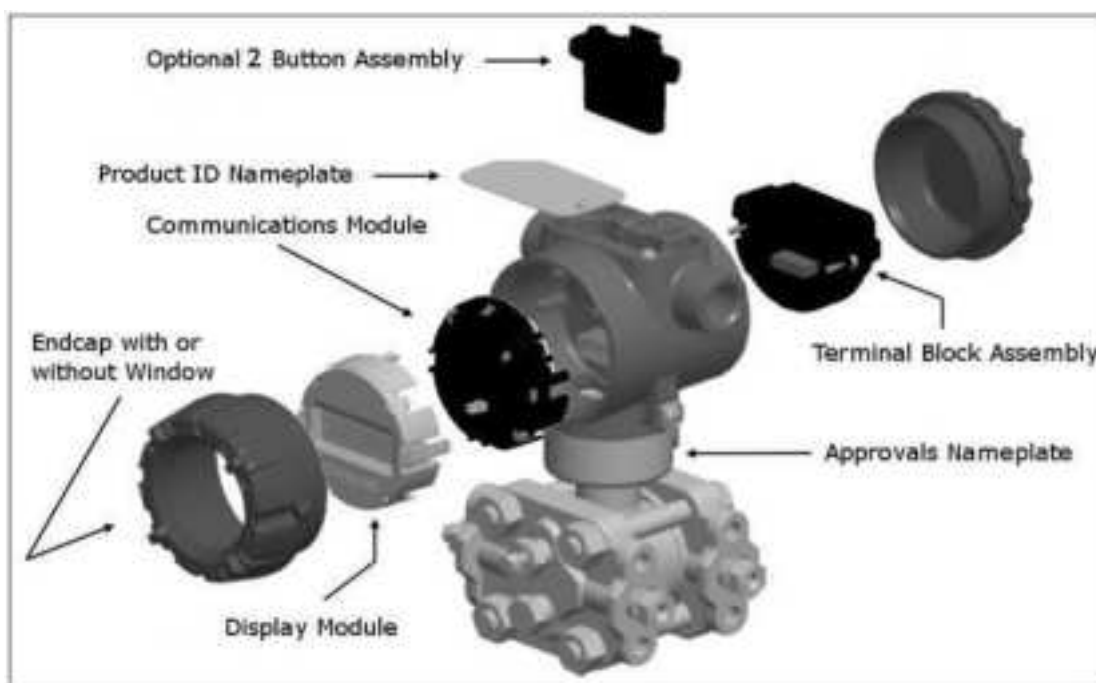
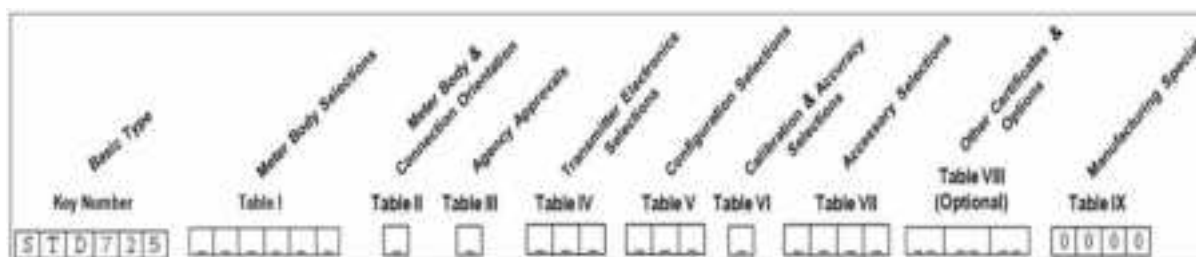
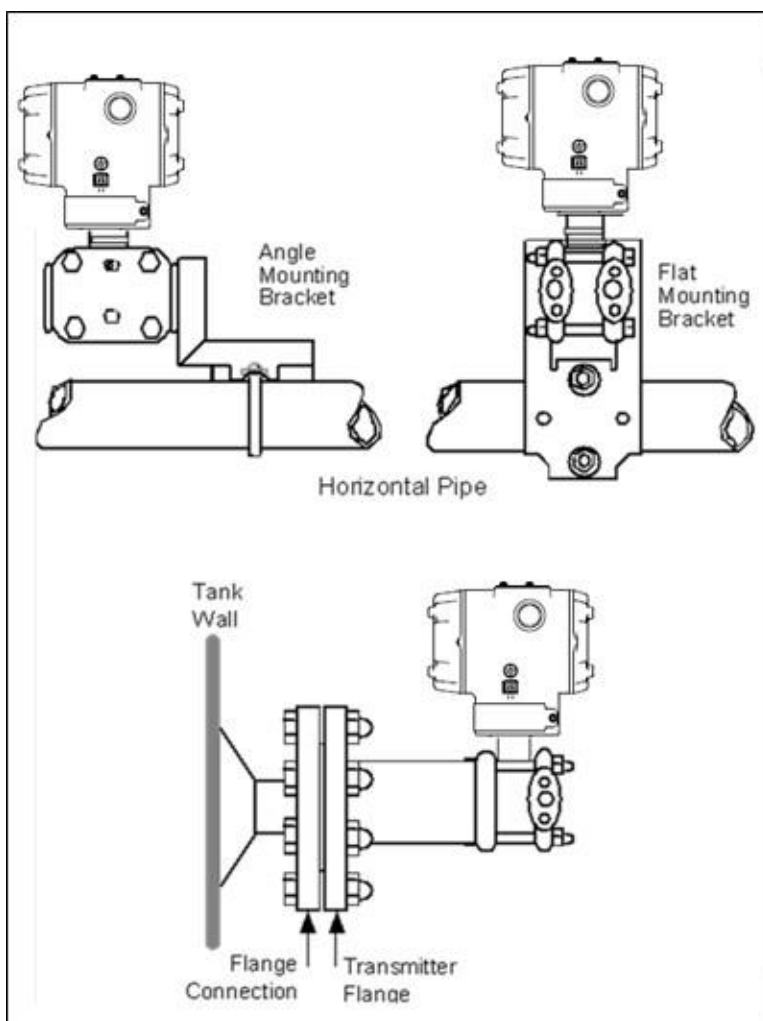

Figure 41 – ST 700 Basic transmitter Electronics Housing Components
Figure 42 – ST 700 Basic Transmitter - Name Plate
Figure 43 – ST 700 Basic Transmitter - Typical Bracket Mounted and Flange Mounted Installations
As shown in Figure 41 the ST 700 basic transmitter is packaged in two major assemblies: the electronics housing and the meter body. The elements in the electronic housing respond to setup commands and execute the software and protocol for the different pressure measurement types. Figure 42 shows the assemblies in the electronics housing with available options.
The transmitter nameplate mounted on the bottom of the electronics housing (see Figure 42) lists its model number, physical configuration, electronics options, accessories, certifications, and manufacturing specialties. Figure 43 is an example of a typical Gauge Pressure (GP) or Atmospheric Pressure (AP) transmitter name plate. The model number format consists of a Key Number with several table selections. The Differential Pressure (DP), Absolute Pressure (AP), and Gauge Pressure (GP) name plates are essentially the same. The DP model provides one additional entry (7 vs. 6) in the meter body selections (Figure 43) to accommodate the static pressure rating.
An “Approvals” name plate is located on the bottom of the Electronics Assembly; see Figure 42 exact location. The approvals name plate contains information and service marks that disclose the transmitter compliance information.
Zero and Span adjustments are possible in ST 700 basic transmitter with the optional external 2-button and integrated two-button assemblies. See Figure 42 for the external 2-button assembly.